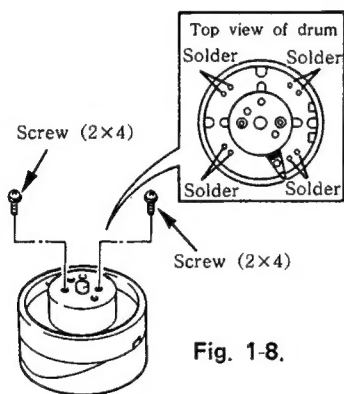

Fig. 1-8.
- ① As shown in Fig. 1-8, remove the two short screws (2×4).
- ② Completely remove the eight soldering points on the rotating drum's board. Refer to Fig. 1-8.
- ⑤ While referring to Fig. 1-8, solder the board's eight places and eight terminals.
- ⑥ After the rotating drum is replaced, use a head cleaner stick to clean the video head and transport system. Follow Procedure 2 of "Cleaning the video head and transport system."